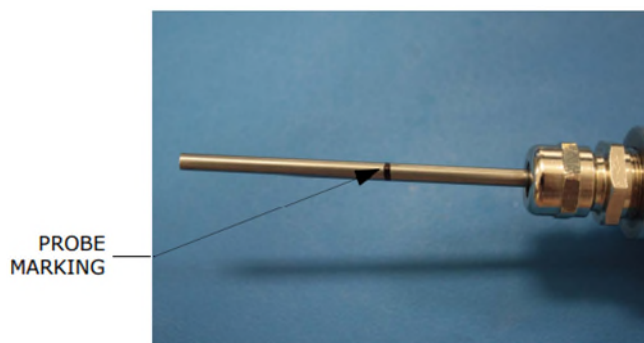

Figure 7. Oxygen probe - insertion marking
3. Look for the marking on the probe end. This marking indicates the depth to which the probe should be installed. Refer to Figure 7.
9. Look for the marking on the probe end. This marking indicates the depth for which the probe should be installed. Refer to Figure 7.